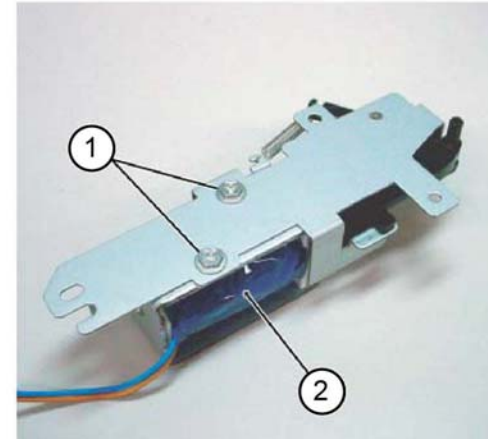

Figure 4 Sub paddle solenoid removal
9. Remove the sub paddle solenoid, **Figure 4**:
- a. Remove two screws (1).
- b. Remove the sub paddle solenoid (2).